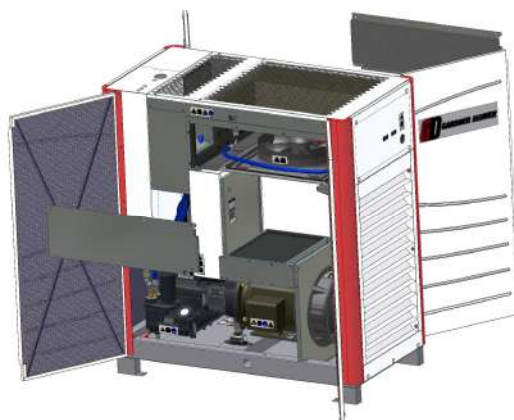

Figure 6-2 – COOLER HOUSING SIDE COVERS
4. Locate cooler housing side covers (See Figure 6-2) and remove by unscrewing fasteners.